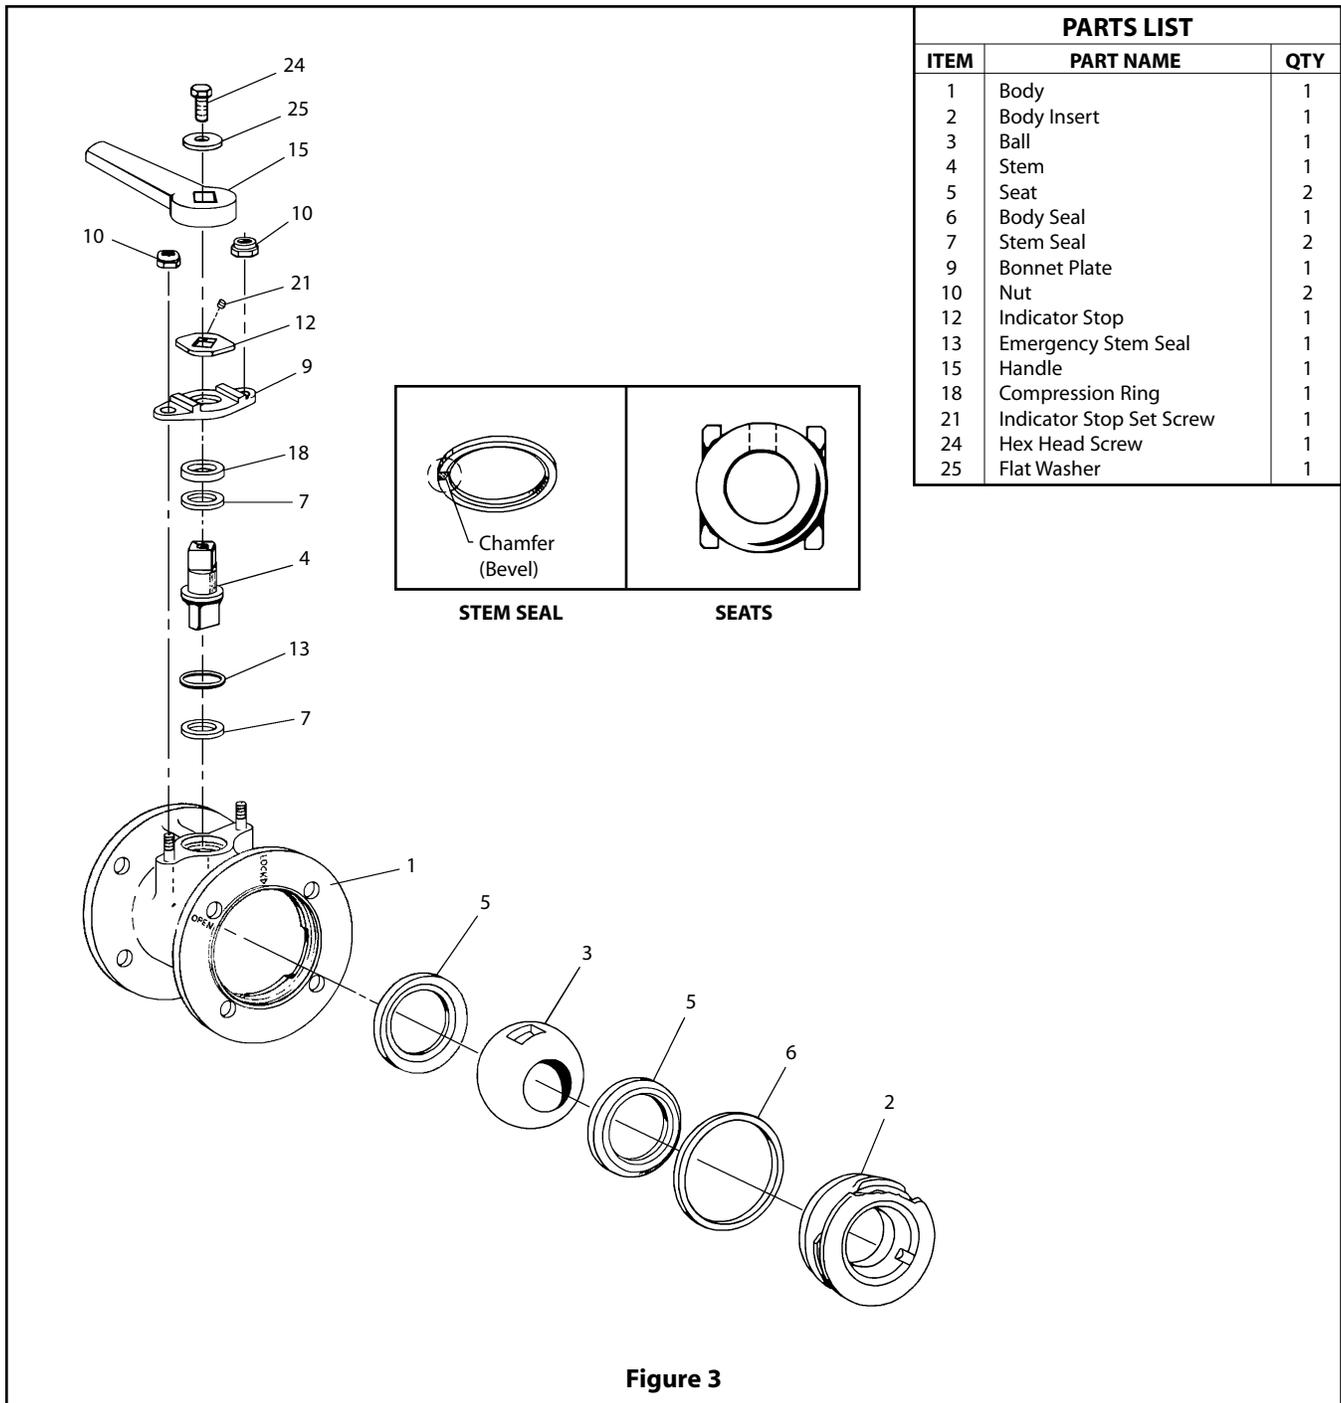

Figure 3
- B. Slide the lockwasher (7) and base (4) down the rod and securely fasten with another hex nut (6B).
- D. Place the other gasket on the insert (2) **(Figure 3)** and slide the second plate (2) over the rod engaging the dowel pins with the wrenching grooves in the insert.
- E. Fit the handle (1) over the dowel pins of the plate.
- F. Fit the flat washer (5) over the rod and tighten the entire assembly with the remaining hex nut (6C).
1. Slide the first valve seat (5) into the body (1) to below the stem opening, and tilt it into place so that the proper surface will be adjacent to the ball (3) (**see seat detail in Figure 3**).
2. Place the ball into the valve in the open position, and adjust so that the slot faces the stem opening. Insert the stem (4) as a temporary means of holding the ball, and turn the ball to the closed position.
3. Insert the second seat (5) into the body insert (2) so that the proper surface will be adjacent to the ball. Insert the body seal (6) with the chamfer on the I.D. away from the ball. Turn the ball to the fully open position.
4. Wipe a liberal amount of lubricant on the body seal and locking grooves and tabs of the body and insert (2).
8. Remove the stem. Insert one stem seal (7) into the body with the chamfer on the I.D. facing down the emergency stem seal (13) on top of this seal. Lubricate the stem with a compatible lubricant and insert it. The stem should be tapped into place gently to avoid cutting the seal. The slotted top of the stem will give a visual indication of ball position.
9. Slide the second stem seal (7) and compression ring (18) onto the stem. The chamfer on the I.D. of this stem seal should also be facing down.
10. Fit the bonnet plate (9) over the stem and bonnet studs.
11. Tighten the nuts (10) against the bonnet evenly and alternately until the stem seals are seated. Turn each another 3/4 of a turn to insure proper stem seal compression.